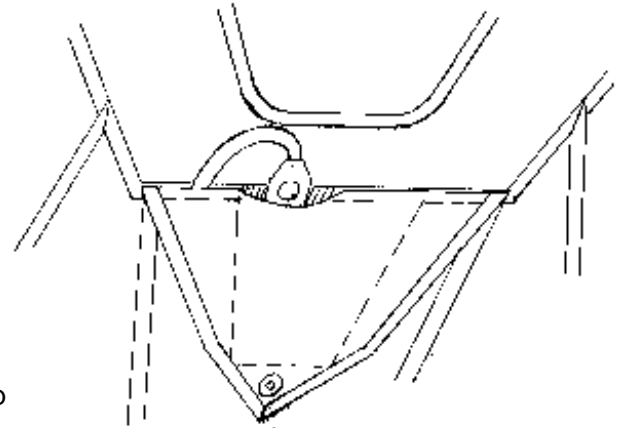

Figure 7-1
Step 3 Pull plenty of cable slack through the channel. Thread the control unit through the gap provided under the top hinge area of the #1 reserve sub flap. (*Figure 7-1*)